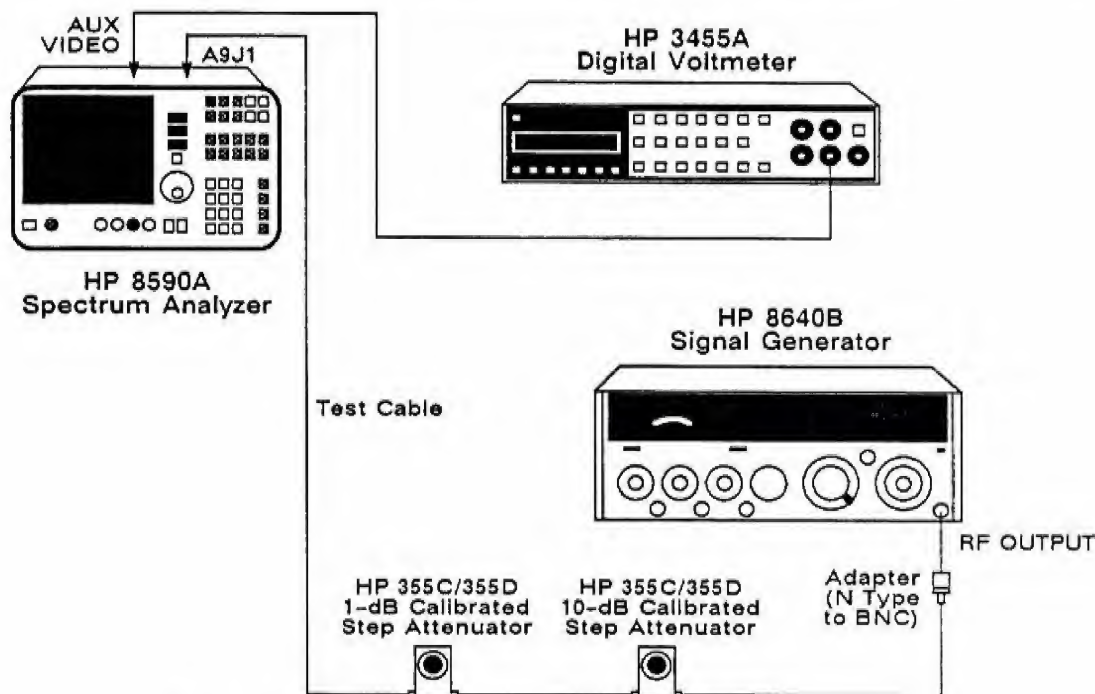

Figure 2-6. Log Amplifier Log and Linear Adjustment
3. Connect the equipment as shown in Figure 2-6. Set the 1-dB step attenuator to 10 dB. Set the signal generator frequency to 321.3 MHz and the output level to -13 dBm. Remove the W16 (red cable) from the A9J1. Connect the signal generator output through the step attenuators and the test cable to the A9J1.